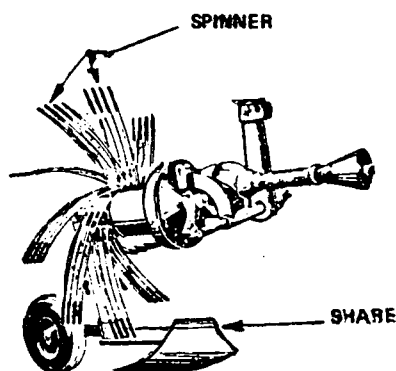

Fig. 1
*CASE I - INTEGRAL-MOUNTED DIGGER (Fig. 1)*